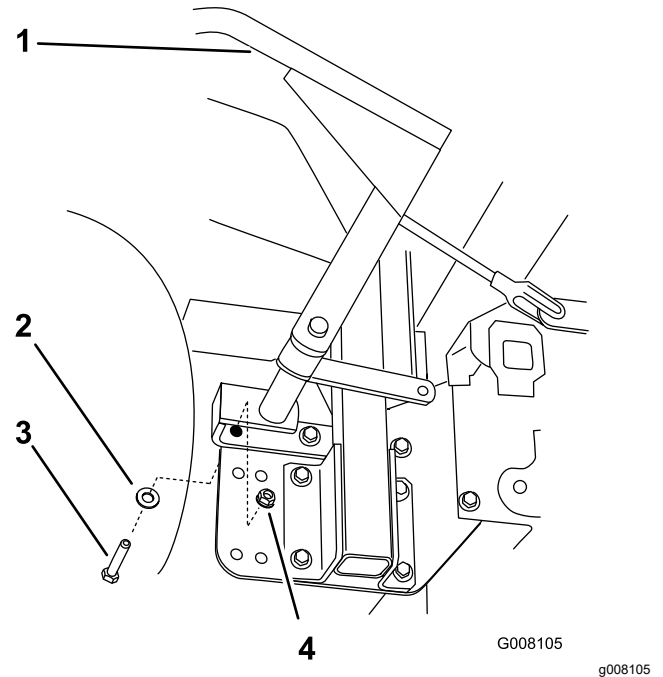
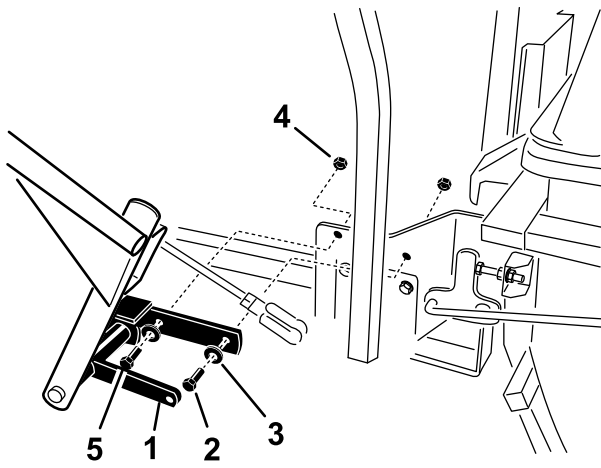

Figure 7
Figure 8
1. Position the handle assembly between the ROPS roll bar and the bagger mounting bracket (Figure 8).
2. Install the handle assembly to the bagger mounting bracket and the machine with 3 bolts (3/8 x 1-1/4 inches) and 3 locknuts (3/8 inch) (Figure 7 and Figure 8).